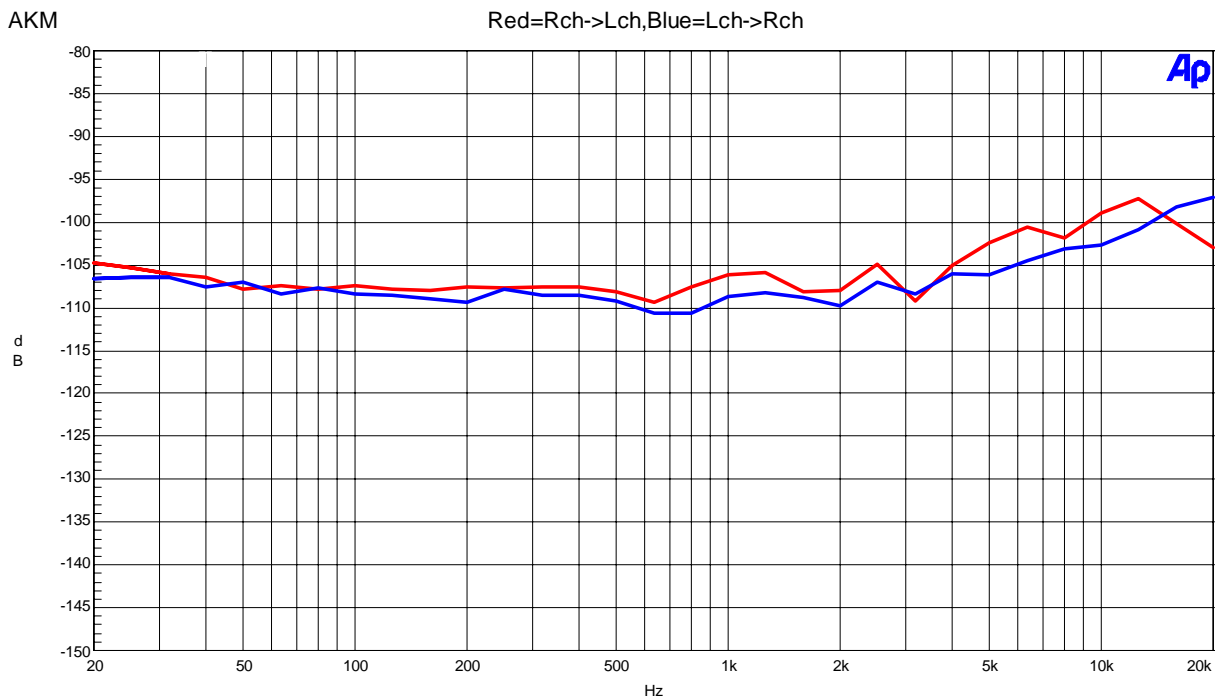

Figure 15. Crosstalk (Upper@1k = Rch, Lower@1k = Lch)
- Figure 15. FFT (Input Frequency =1kHz, Input Level =0dBFS)